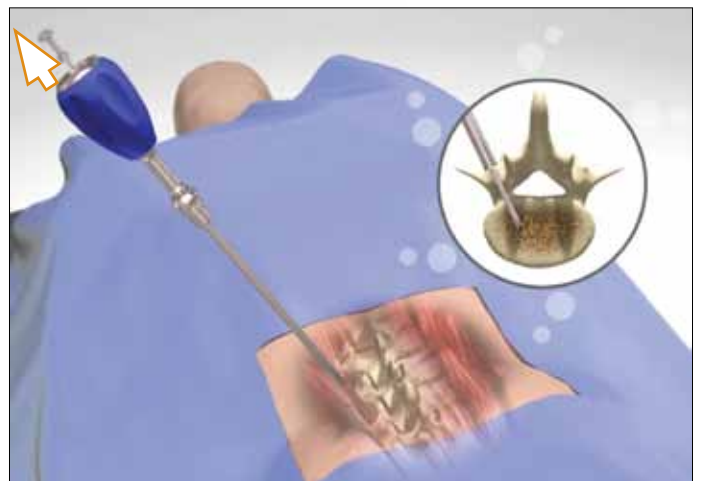

FIG. 10
- Remove the inner Stylet from the Cannulated Awl and replace it with the Guide Wire. (FIG. 10)